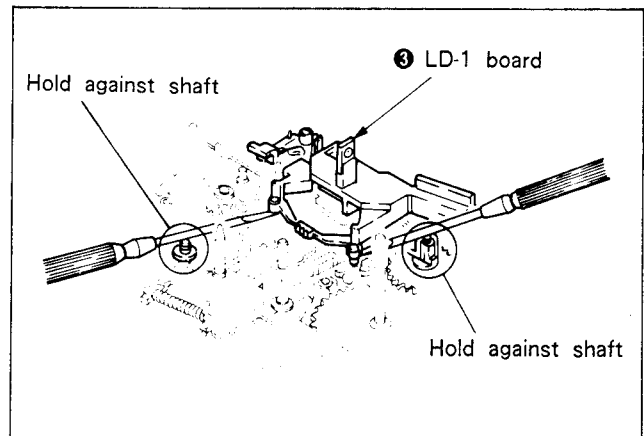

Fig. 7-37.
- 3) Remove stopper washer ① and remove the drive gear B assembly ②.
- 4) Remove the LD-1 board ③. (See Fig. 7-37.)
- 6) Remove the spring ④ and remove B release arm assembly ⑤.
- 8) Remove stopper washer ⑥ and remove the mode output gear ⑦.
- 9) Unsolder RECOG switch ⑨ terminal at three places.
- 10) Remove the screw ⑧ and RECOG switch ⑨.
- 11) Disconnect connector ⑩.
- 12) Remove three screws ⑪, and remove the control motor cover assembly ⑫.
- 13) Push the T.S release arm assembly ⑭ in the direction of arrow **A**. And then, push the T main brake assembly ⑮ in the direction of arrow **B** and remove the M-SW assembly ⑬.
- 14) Remove solder **C** and remove the control motor ⑯.